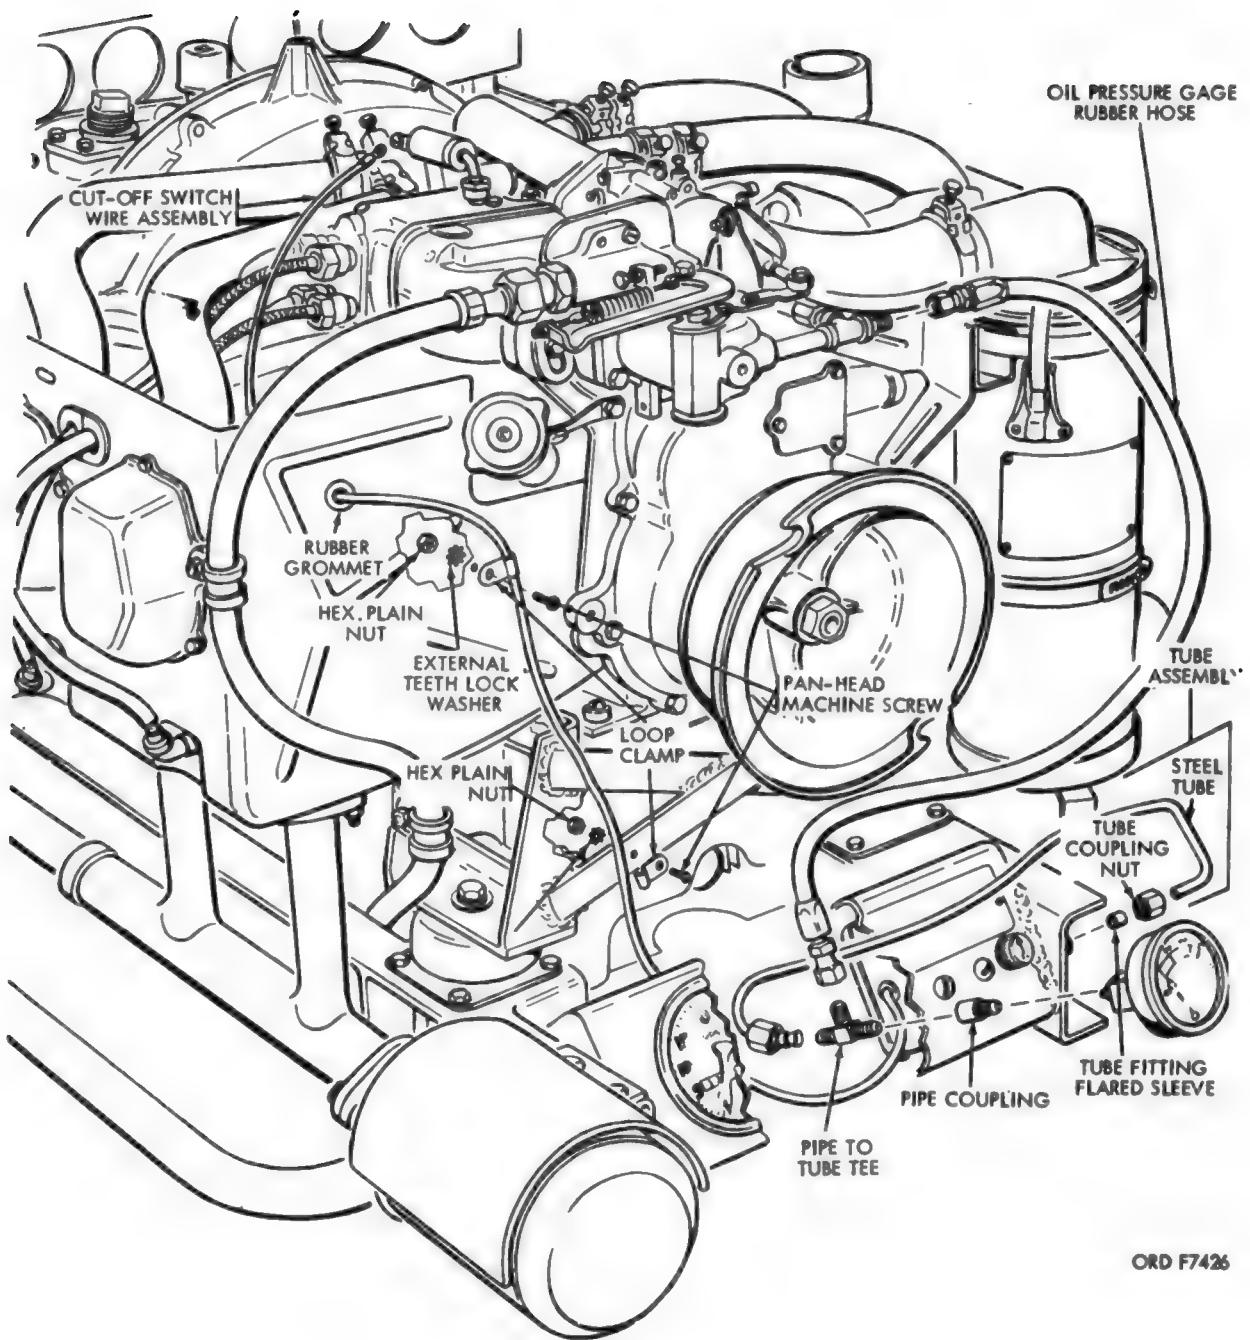

Figure 159. Removal or installation of oil pressure gage hose, tube assembly, and cut-off switch wire assembly.
a. Oil Pressure Gage Rubber Hose (fig. 159).
- (1) Disconnect the coupling on the upper end of the oil pressure gage rubber hose from the hose adapter on the oil pressure line.
- (2) Disconnect the coupling on the lower end of the hose from the 1/8-inch pipe to tube tee and remove the hose.
- (3) Remove the tube assembly from the cut-off switch and pipe to the tube tee.
- (4) Remove the 1/8-inch pipe to tube tee from the 1/8-inch pipe coupling in the oil pressure gage.
- (5) Remove the 1/8-inch pipe coupling from the oil pressure gage.
b. Cut-off Switch Wire Assembly (fig. 159).
- (1) Disconnect the upper end of the cut-off switch wire assembly from the capacitor terminal.
- (2) Remove two hexagon plain nuts, two external teeth lock washers, and two pan-head machine screws securing two 1/4-inch loop clamps to the shroud and bracket.
- (3) Pull the wire assembly through the rubber grommet in the shroud and remove the grommet and two loop clamps from the wire assembly.
- (4) Remove the cover from the cut-off switch, disconnect the cut-off switch wire assembly, and remove the wire.
(4) Secure one 1/4-inch loop clamp to the hydraulic power unit with the existing hardware and one to the motor starter casting with the existing bolt.
d. Cut-off Switch Wire Assembly (fig. 159).
- (1) Install a rubber grommet in the rear right corner of the engine shroud.
- (3) Secure the two loop clamps with two no. 10 x 3/8 pan-head machine screws, two no. 10 external teeth lock washers, and two no. 10 hexagon plain nuts as shown.
e. Oil Pressure Gage Rubber Hose (fig. 159).
- (1) Install the 1/8-inch pipe coupling in the oil pressure gage.
- (2) Install the 1/8-inch pipe to tube tee in the pipe coupling.
- (3) Install the tube assembly on the cut-off switch and pipe to tube tee.
- (4) Connect the oil pressure gage rubber hose to the adapter on the oil pressure line on the engine, and the pipe to tube tee in the oil pressure gage.
a. Inspect oil pressure gage rubber hose for severe cuts or leaks and replace if necessary (fig. 159)
b. Inspect tube assembly connecting the oil line with the cut-off switch for damage or leaking conditions (fig. 159). Fabricate new tube assembly, if necessary.